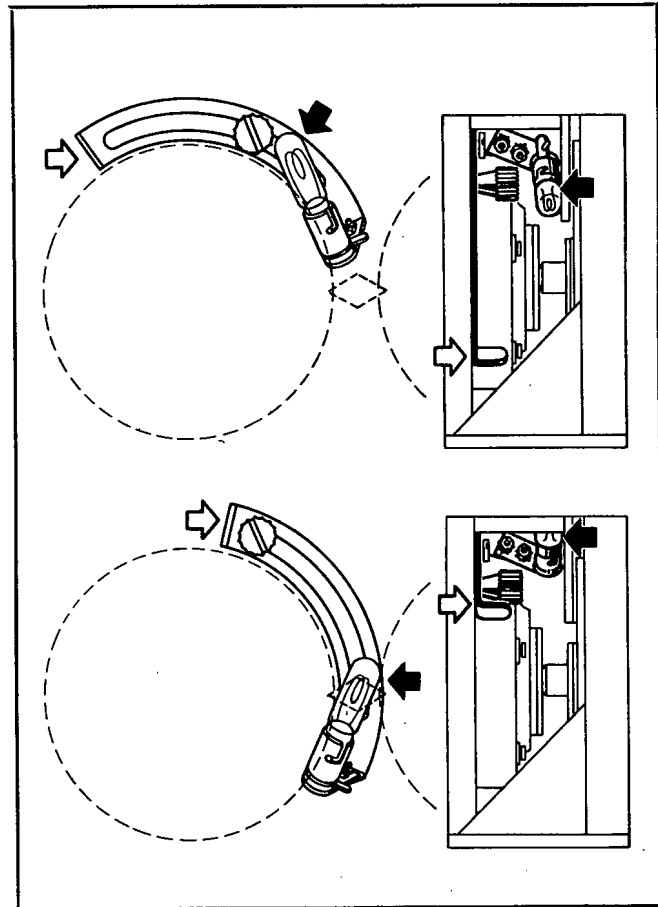

Figure 5-18. Dial Lamp in Bearing Indicator
f. There is only one dial lamp in the Bearing Indicator. To replace it, loosen the front panel thumbscrews and pull the chassis forward until the locks are engaged. The lamp is located on the frame between the two synchro units. It is mounted on a bracket as shown in Fig. 5-18. Loosen the thumbscrews, grasp
the top of the bracket and pull it upward as far as it will go. Hold it in this position and remove the bulb with the other hand, then return the bracket to its original position and tighten the thumbscrew. See Fig. 5-18. Release the chassis locks, return the chassis to the case and tighten the thumbscrews on the front panel.